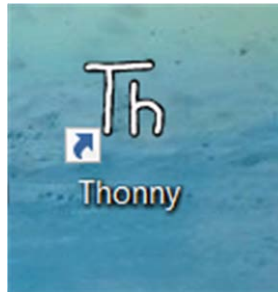

Figure 2.21: Thonny icon on the PC Desktop.
- You should see an icon on the Desktop (Figure 2.21) of your PC. Double-click to start Thonny.